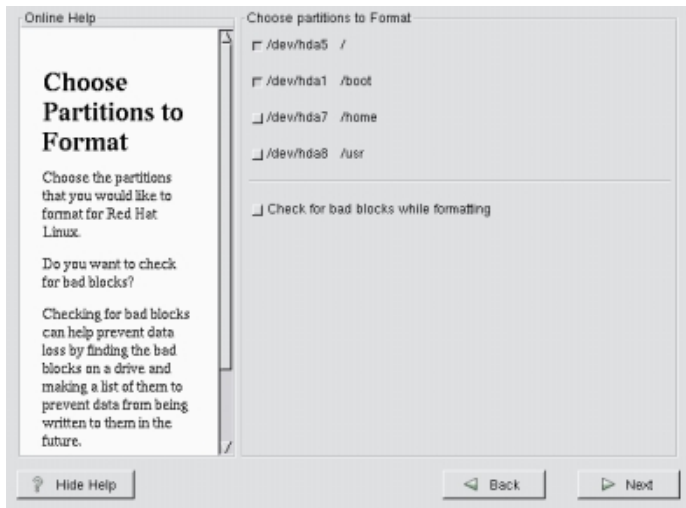

Figure 4 Choose Partitions to Format Window
9. Click the option button that precedes each partition that you configured in step 1 (see Figure 4).